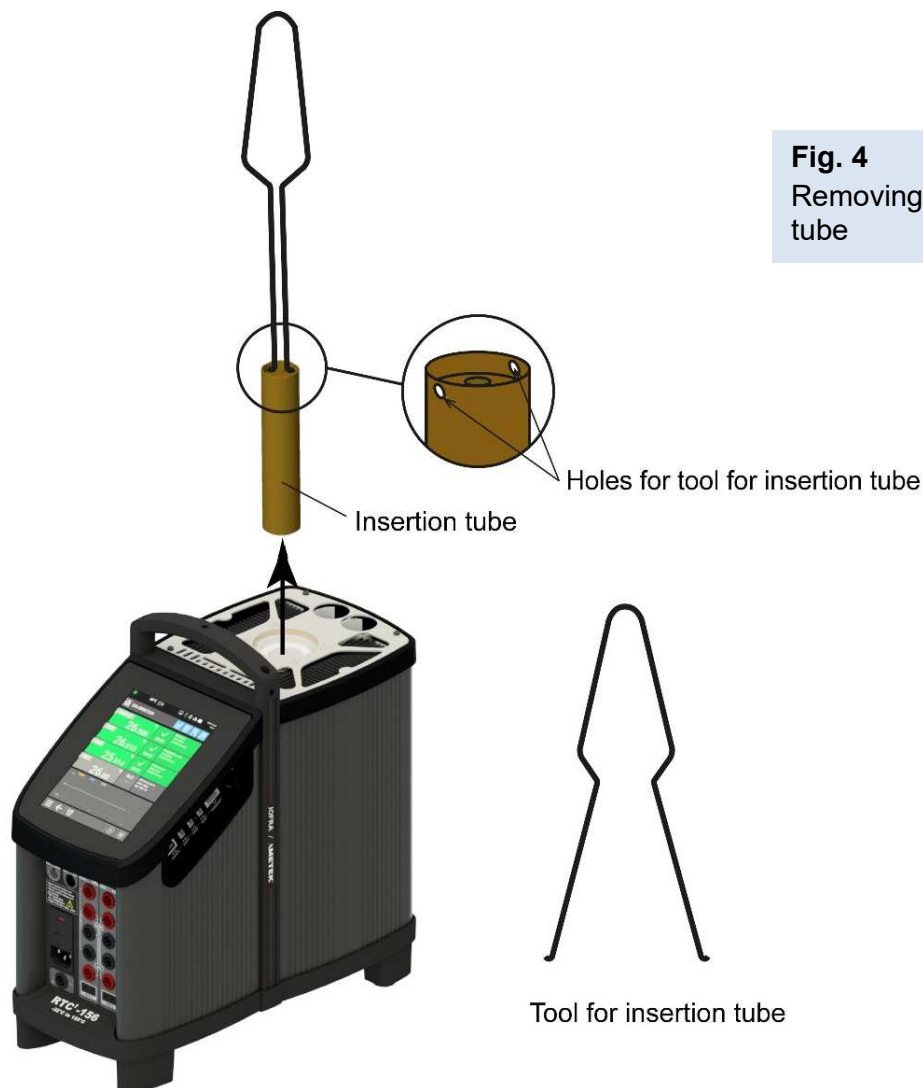

Fig. 4
2. Remove the insertion tube from the calibrator using the tool for insertion tube supplied with the instrument as shown in fig. 4.